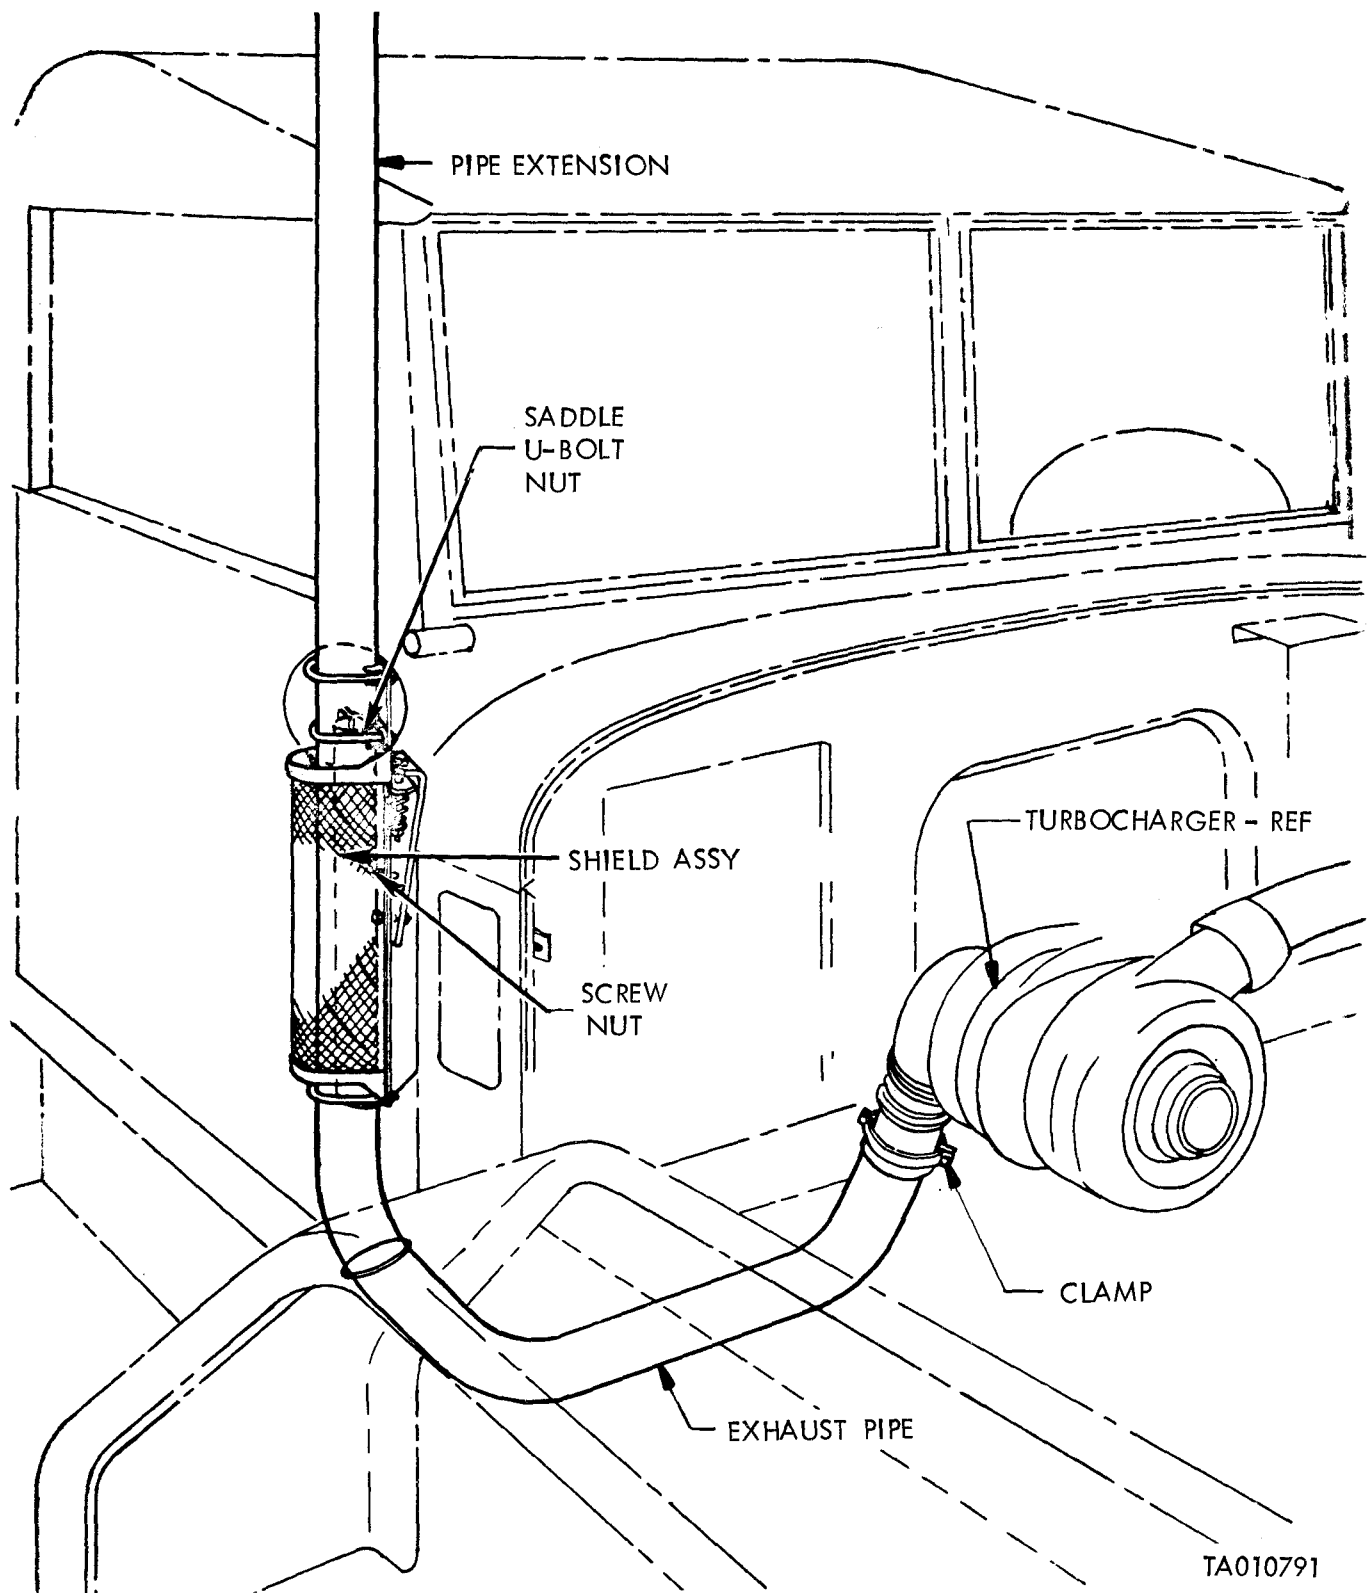

Figure 2-122.1. Vertical Exhaust Stack—Diesel Models.
*a. Removal (fig. 2-122.1).* Refer to paragraph 2-107 a for a similar procedure.